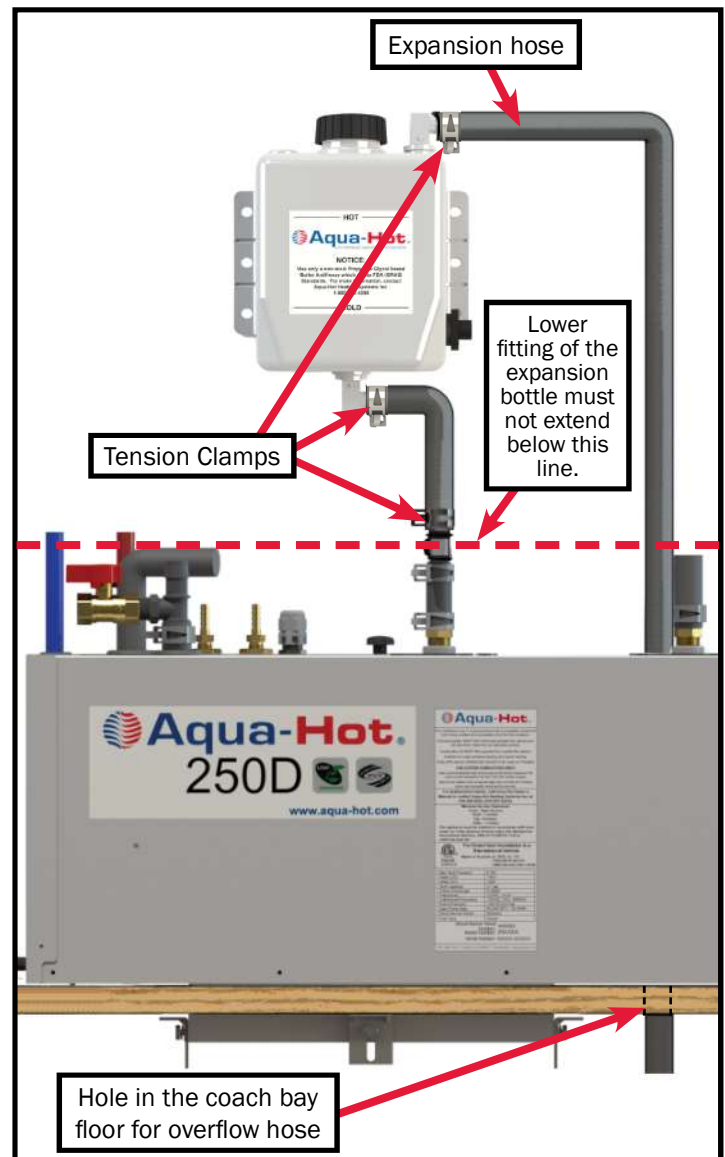

Figure 10
2. Mount the expansion tank as illustrated in Figure 10.